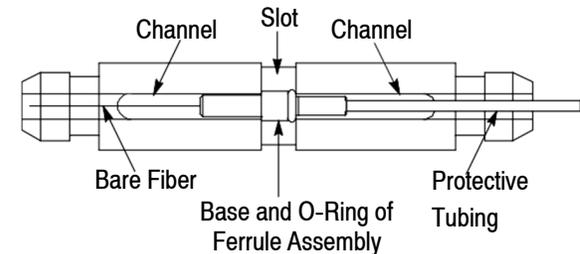

Figure 7
4. Place the assembly in either housing piece so that the base and the O-ring of the ferrule assembly sit in the slot in the channel at one end of the piece and the bare fiber and the protective tubing lay in the channel at the other end of the piece. See Figure 7.